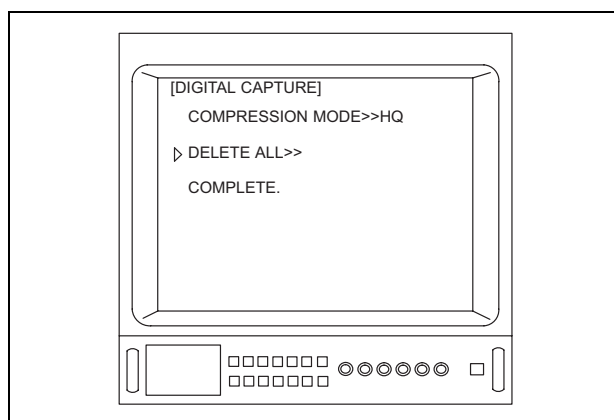

Figure 5.107
9. Depress the menu switch “↵” or the “Enter” key on the keyboard. Then all images are deleted and the menu shown in Figure 5.107 is displayed on the video monitor.
- If the PC card adapter or Memory Card is not inserted, "INSERT MEDIA" is displayed in the menu shown in Figure 5.107.
- If the deletion is required again, "DELETE INCOMPLETE" will be displayed in the menu shown in Figure 5.107.